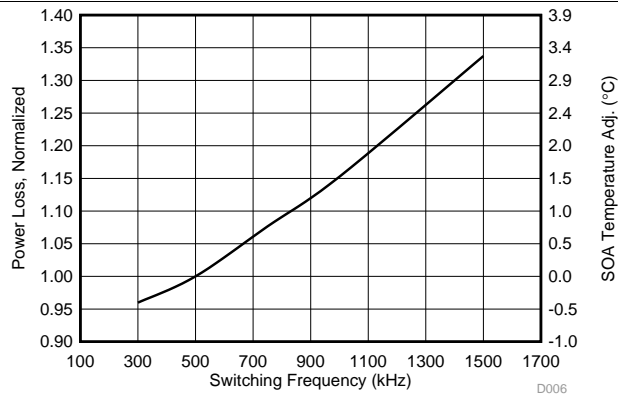

图 4. Normalized Power Loss vs Switching Frequency
- Normalized power loss for switching frequency ≈ 1.08 (图 4)